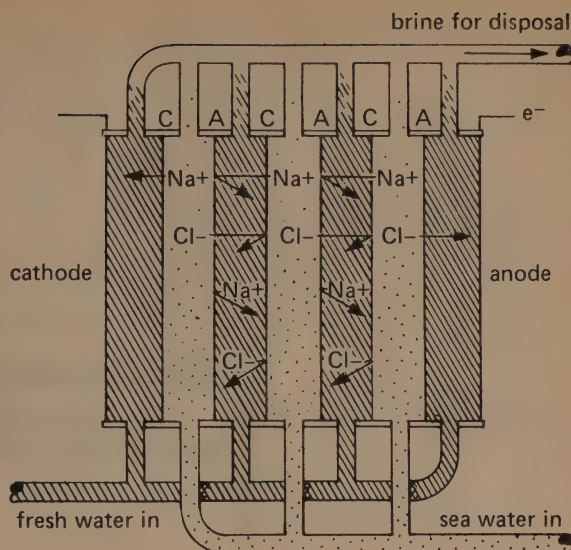

Figure 3. Dialytic battery. Only a few cells are shown here, but many more would be included.
For a "reverse electrodialysis" stack, two types of membranes are used, called anion-permeable membranes and cation-permeable membranes. The cation-permeable membranes will allow the positive ions (in this case, mainly sodium ions, Na^+) to pass through, and the anion-permeable membranes will allow the negative ions (mainly chloride ions, Cl^-) to pass through. If one alternately stacks anion-permeable (A) and cation-permeable (C) membranes and fills the alternate cells with fresh water and salt water, respectively, the voltage will add up as already mentioned (see Figure 3).
In conventional electrodialysis, a voltage is applied across a stack similar to the one shown in Figure 3. In this mode of operation, all of the cells would be filled with brackish water and the end product would be fresh water and salt water in alternate cells. Electrodialysis is used for many commercial processes, such as sweetening orange juice by removing some of the citric acid.